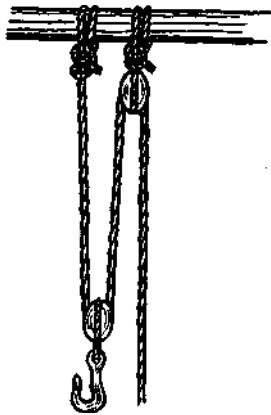

Fig. 112
2. Double whip (Fig. 112). Power gained: double.